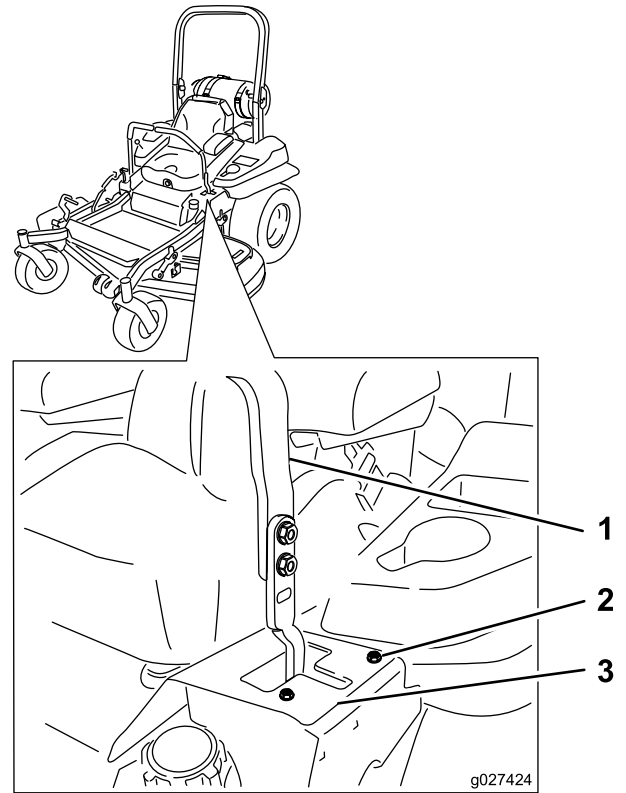

Figure 62
6. Tighten the stop plate (Figure 62).
- If it tracks to the right, loosen the bolts and adjust the left stop plate rearward on the left T-slot until the machine tracks straight (Figure 62).
- If it tracks to the left, loosen the bolts and adjust the right stop plate rearward on the right T-slot until the machine tracks straight (Figure 62).